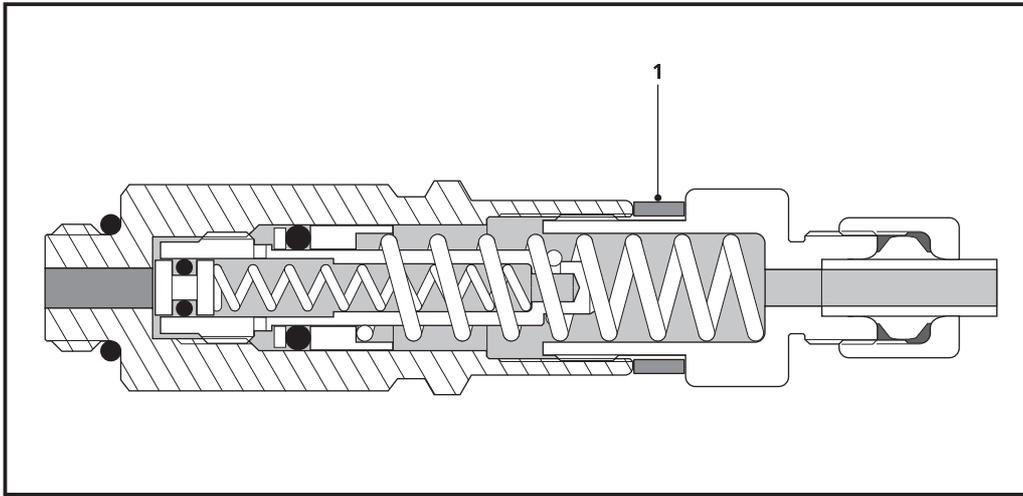

Figure 8.3 Metering unit in initial position
Figure 8.3 illustrates a new metering unit, one that has not yet been filled with grease. Item (1) in this figure is the spacer, which determines the delivery of the metering unit (see previous paragraph).
The pump presses the grease into grease channel (1). The grease pushes plunger (4) past channel (2). The grease now fills chamber (3) and pushes plunger (5) to the right. The stroke length of plunger (5) will determine the amount of grease that will be pressed through the secondary grease line to the grease point. This stroke length - hence the capacity of chamber (3) - is determined by the number and thickness of the spacers (Figure 8.3/1).